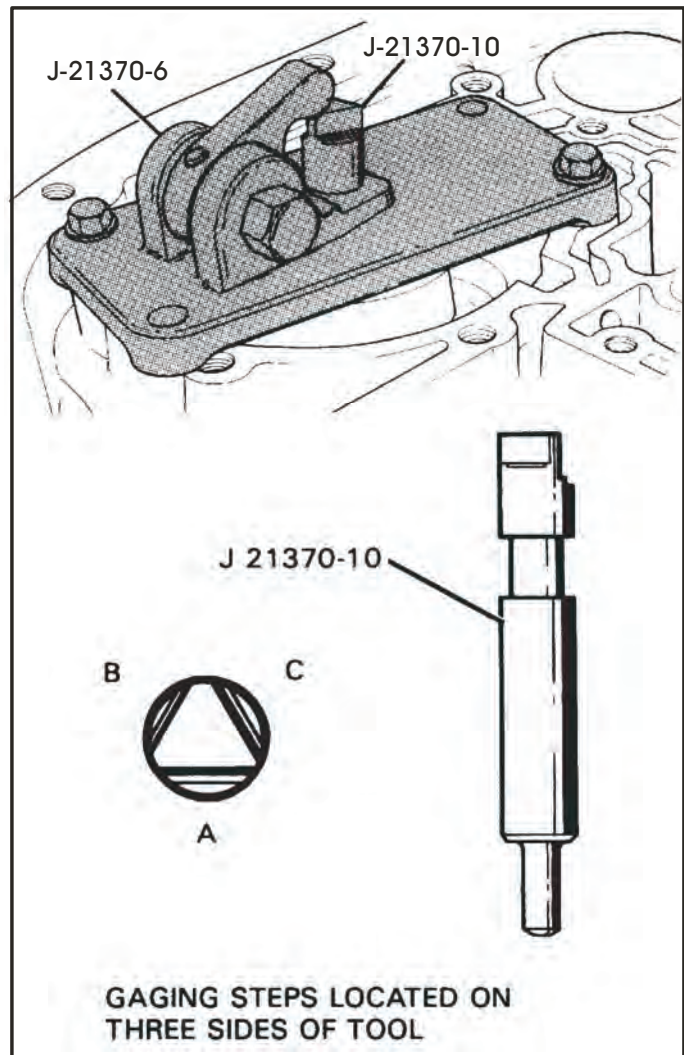

Figure 118
33. Place J-21370-10 gage pin into the reverse servo pin bore (See Figure 118).
34. Position J-21370-6 selector gage tool over the bore with the hex nut facing parking linkage, as shown in Figure 118.
35. Fasten with two 5/16-18 x 1" bolts and torque to 24 Nm (18 ft.lb.) (See Figure 118).
37. To determine correct pin length, apply 25 ft.lb. torque to the nut on gage (See Figure 118).